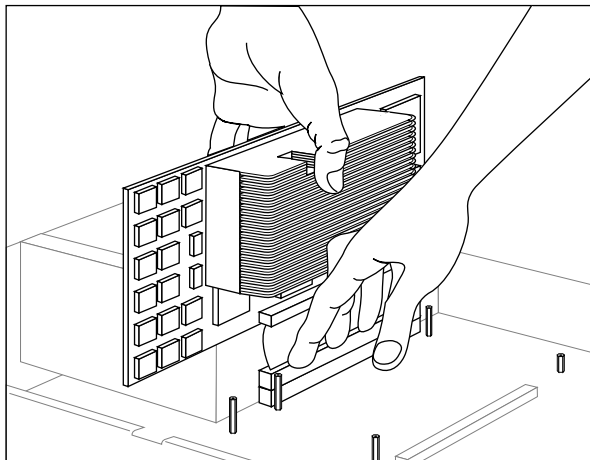

Figure 2-16 Seating the R8000 CPU Module Flex Cable
5. Hold the R8000 CPU module in one hand and use your other hand to seat the flex-cable connector, as shown in Figure 2-16. Apply firm, even pressure to the flex-cable connector using your fingers.